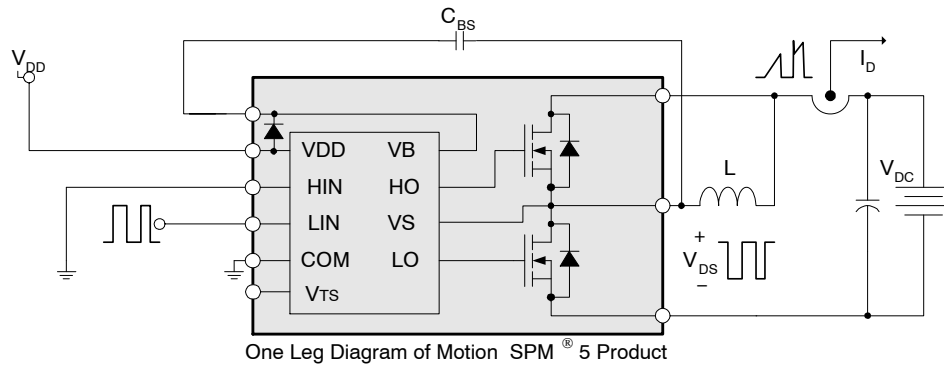

Figure 7. Switching and RBSOA (Single-Pulse) Test Circuit (Low-side)
6. t_{ON} and t_{OFF} Include the Propagation Delay Time of the Internal Drive IC. Listed Values are Measured at the Laboratory Test Condition, and They Can be Different According to the Field Applications Due to the Effect of Different Printed Circuit Boards and Wirings. Please see Figure 7 for the Switching Time Definition with the Switching Test Circuit of Figure 7.